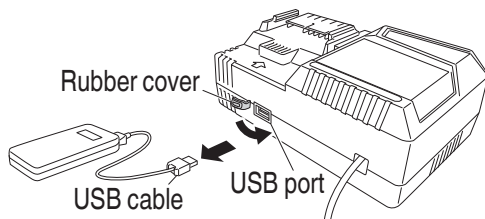

Fig. 16
- (3) When charging is completed
- Unplug the power cord from the electrical outlet. **(Fig. 16)**